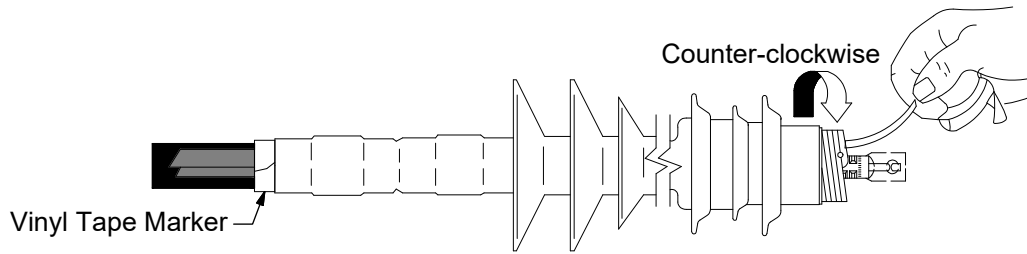

Figure 6A
9. Position the terminator body on the cable. The base of the terminator body (not the core) must be butted up to the edge of the vinyl marker tape. Remove the core while unwinding in a counter-clockwise direction. Once the terminator body has made contact over the mastic seal area, there is no need to continue supporting the assembly. DO NOT push or pull the terminator while unwinding the core. See Figure 6A.